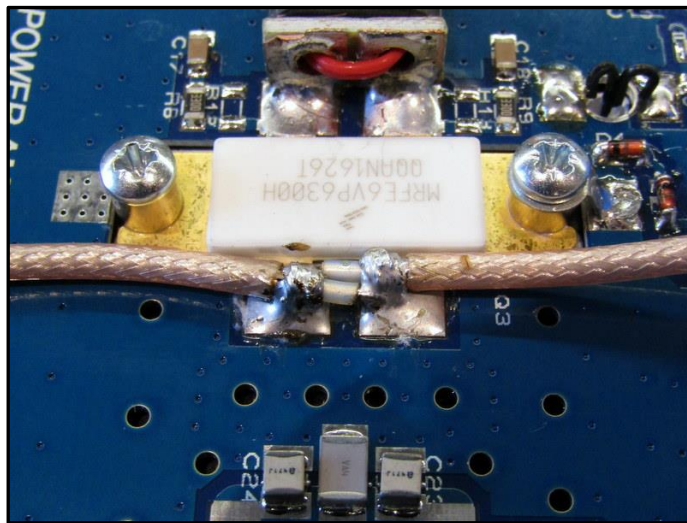

Figure 7: Transistor output coaxes.
11. Identify the two 217mm sections of 25Ω coaxial cable. Strip 8mm of the insulation from one end of each piece and 5mm from the other. Fold back the earth braid on all ends and tin the braid with a soldering iron. Strip the inner cores by about 2mm and solder the 8mm stripped coax ends to the output pads of the transistor so that they cross over as in figure 7.